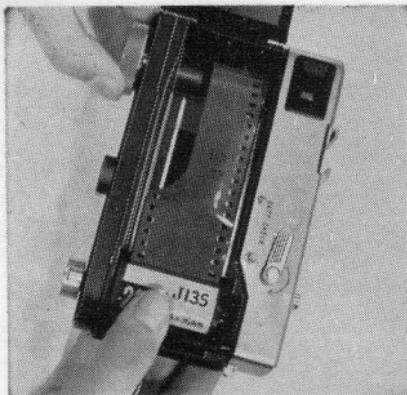

Fig. 7
- ♣ 6. While holding the cartridge in place, turn the WINDING KNOB to make certain that the SPROCKETS have engaged the film perforations. (Fig. 7)